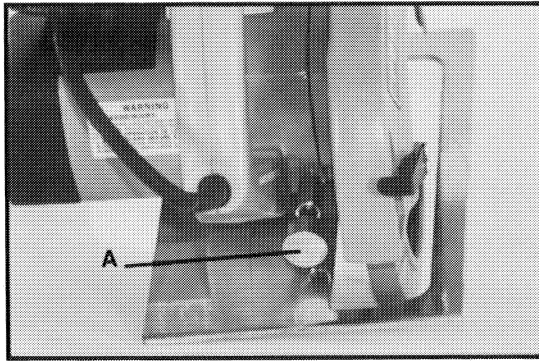

Fig. 13
It is recommended that your saw be lubricated after each 50 hours of use. A grease cup (A), Fig. 13, is located at the rear of the gear housing between the handle and blade well. Clean the grease cup and surrounding area. Remove the cap and fill it with Porter-Cable Gear Lubricant Catalog No. 801945. Install the grease cap on the grease cup body and screw it on as far as it will go to force the lubricant into the gear chamber.